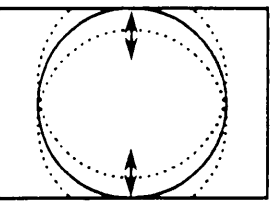

Fig 3.
- 4: Adjust the vertical size to obtain overscan (fig. 3).